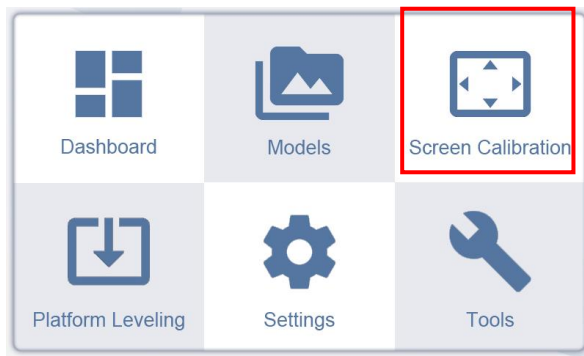
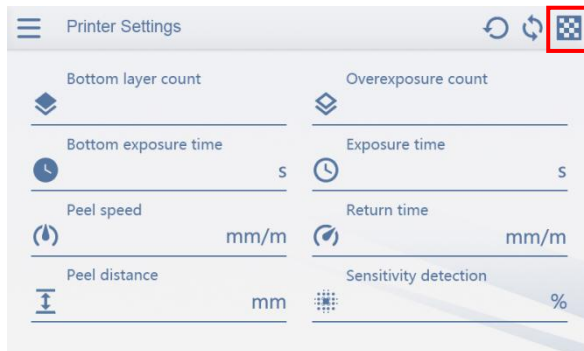

Figure 3-18
Figure 3-19
1. To enable or disable the uniform lighting mode, click on **【Setting】** in the main menu as shown in Figure 3-18 to enter the printing settings page as shown in Figure 3-19. Click on the icon indicated by the red box in Figure 3-19 to select the open/close state of the uniform lighting mode. Status indication: